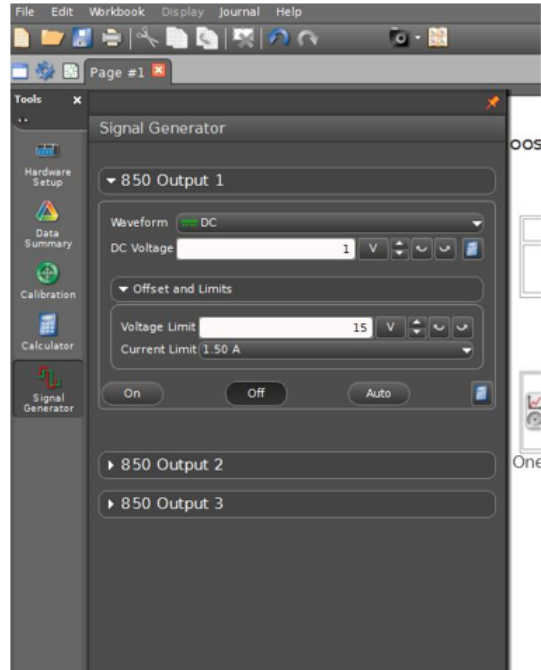

Figure 4: Screenshot of Capstone file
- 1 Open the Capstone file associated with this lab, which starts the Capstone program. A screen similar to Fig. 4 is displayed.